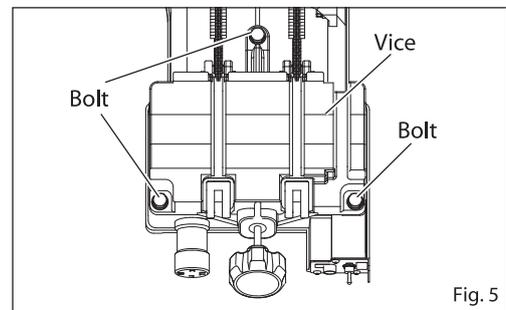

Fig. 5
1. Changing the Vice (Fig. 5~7)
- (1) Undo the 3 bolts and remove together with the washers. (Fig. 5)